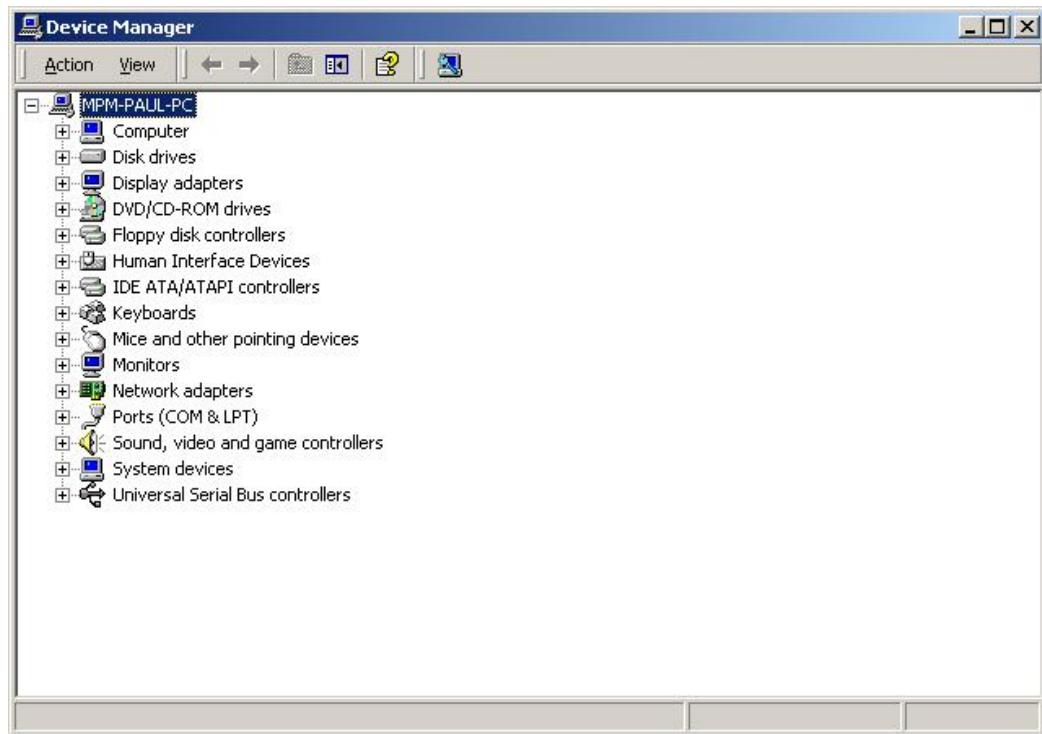

Figure 7-16: Device Manager List
Step 4: A list of system hardware devices appears (Figure 7-16).